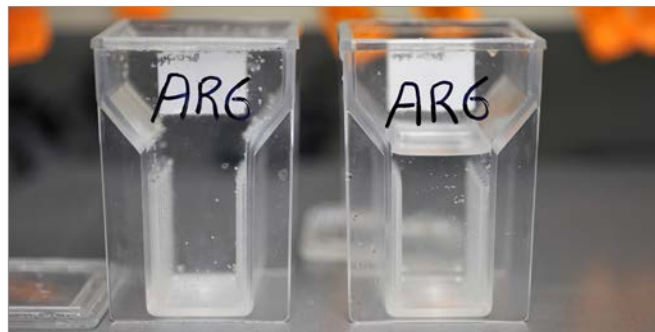

Figure 4. Slide processing jars before (left) and after (right) MWT. Although some evaporation has occurred, the tissue is still covered with AR solution.
3. **Antigen Retrieval.** Rinse slides with AR6 or AR9 solution as appropriate for the target being detected. Place slides in an Opal slide processing jar and fill with AR6 or AR9 solution. Perform MWT and allow slides to cool to room temperature on the bench for at least 15 minutes (Figure 4).
8. **Antibody Removal.** Rinse slides twice with AR6 solution. Place slides in an Opal Slide Processing Jar and fill with AR6 solution. Perform MWT and allow slides to cool on the bench for at least 15 minutes (Figure 4).